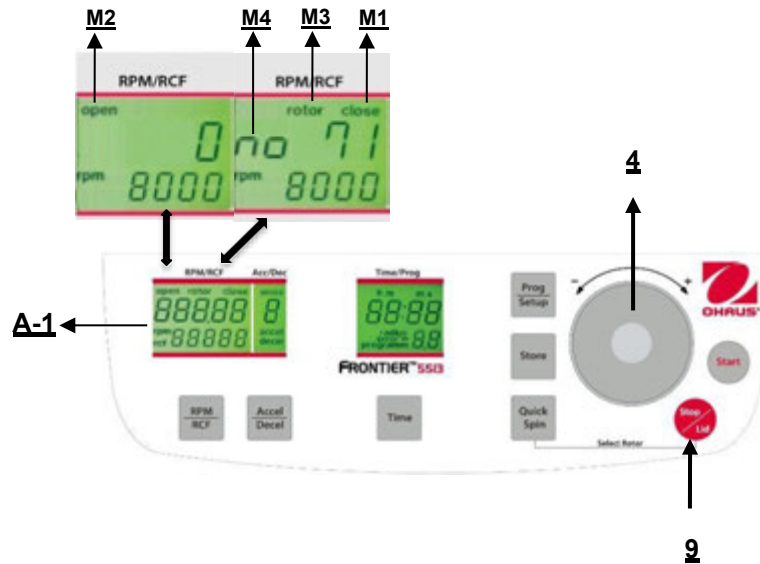

Figure. 12
Before the run, when the lid of the centrifuge is closed, the word **"close"** (M1) appears in the display **"RPM | RCF"** (A-1). Additionally, the code number of the preset rotor is shown in the display. Even if the rotor is not inserted. By pressing the key **"Stop/Lid"** (9) you can release the lid of the centrifuge. As soon as the lid is completely released, the word **"open"** (M2) appears. Now you can open the lid of the centrifuge. Please refer to figure 12 below for reference.